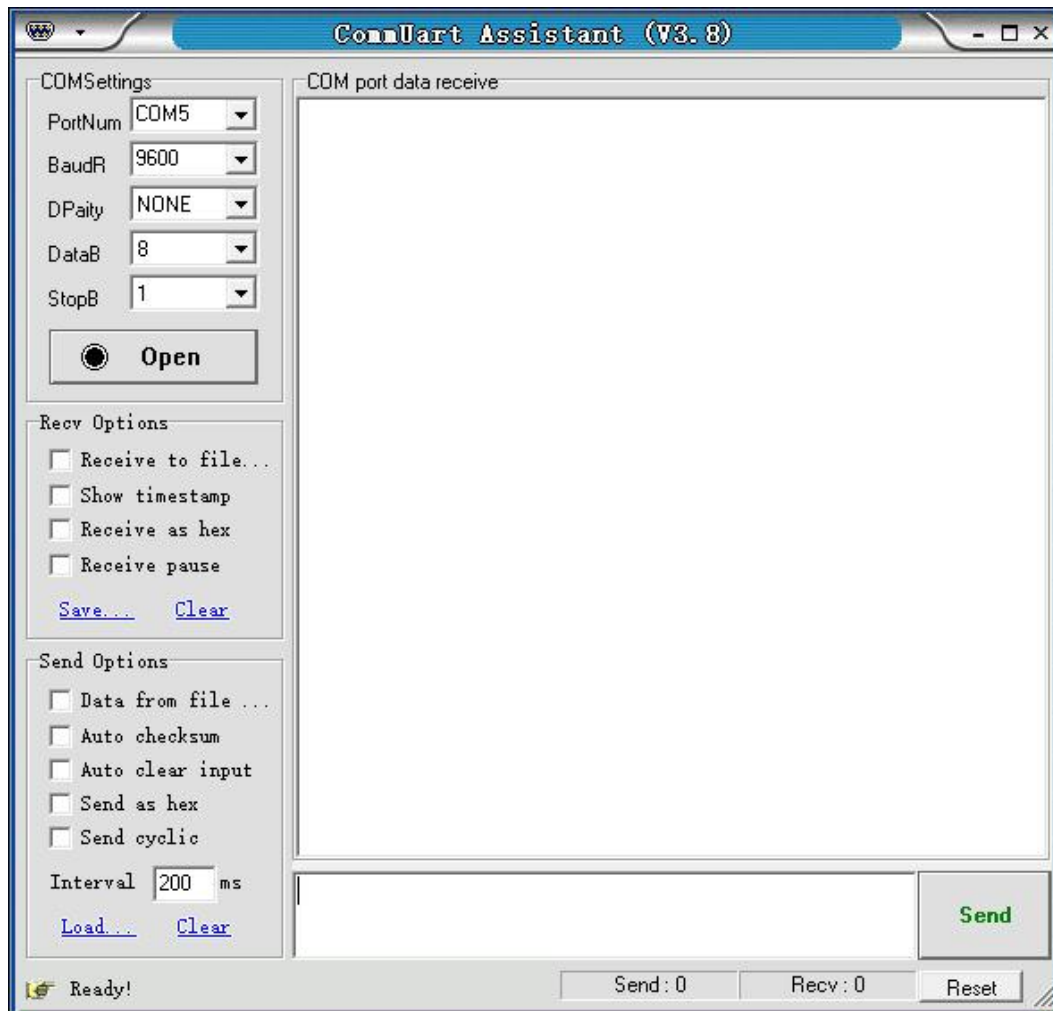

Fig.15 Serial debugging assistant interface
3. Open the folder “Uart Driver” in your disk and double click the file UartAssist.exe. It will call out the software interface, as is shown in Fig.15.